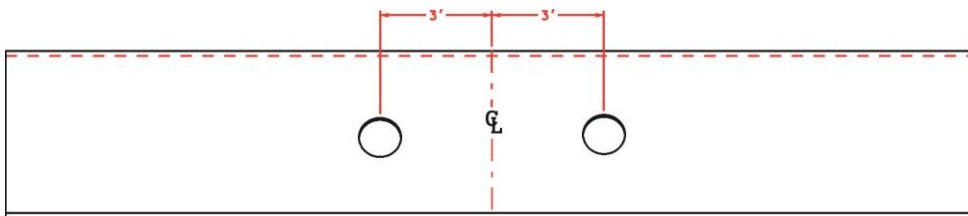

FIG. 2
4. Cut pile handling holes 3ft. or more above center of the pile on either side of center as required to position pile in jaws as shown in figure 2.